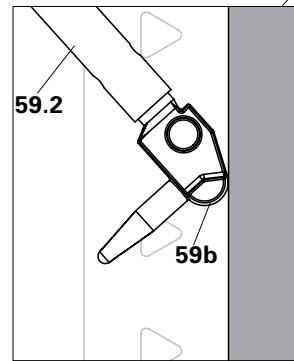

Fig. A8.07a
- Apply downward force using the handle pipe (59.2) such that pivot rod (59b) is pressed against the concrete surface. This helps in detaching the panel from the concrete surface. (Fig. A8.07a)